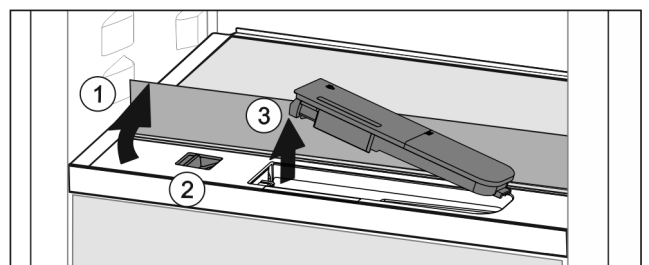

Fig. 42
- ▶ Lift the glass panel and fold towards the rear until it clicks into place *Fig. 42 (1)*.
- ▶ Slide the slider *Fig. 42 (2)* to the left.
- ▶ Remove the water tank *Fig. 42 (3)*.